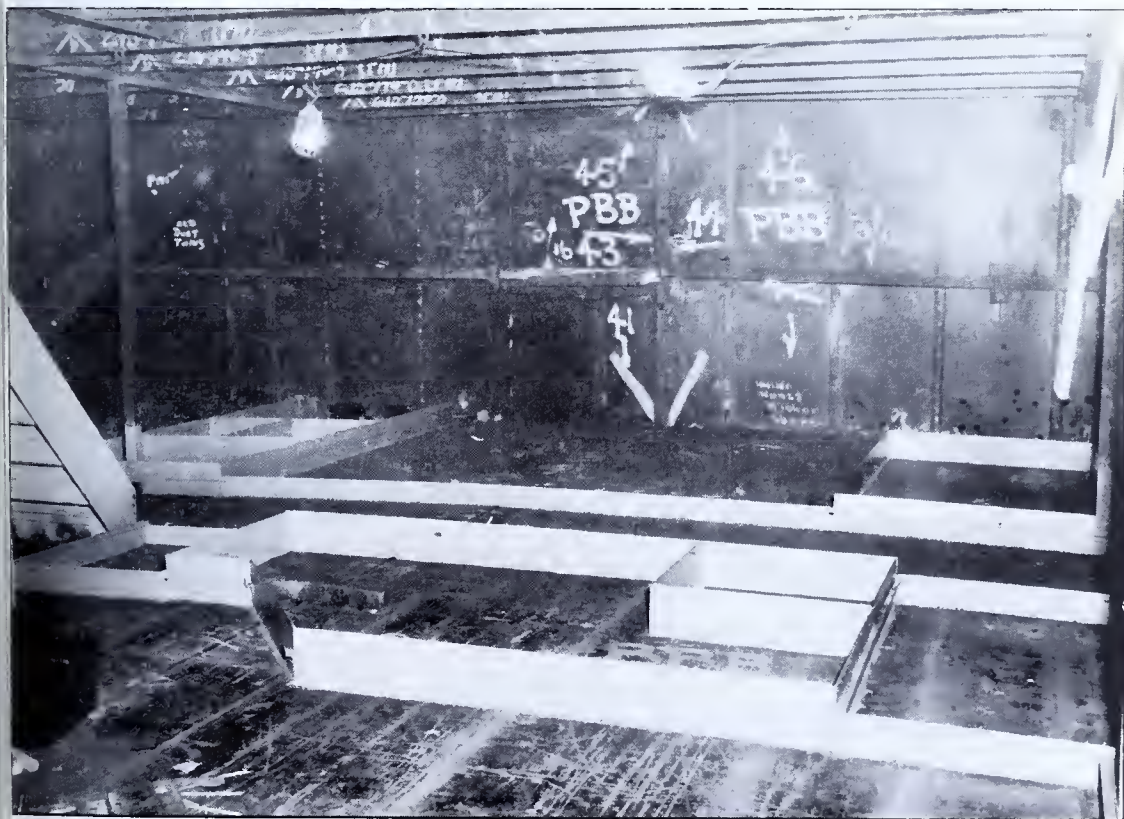
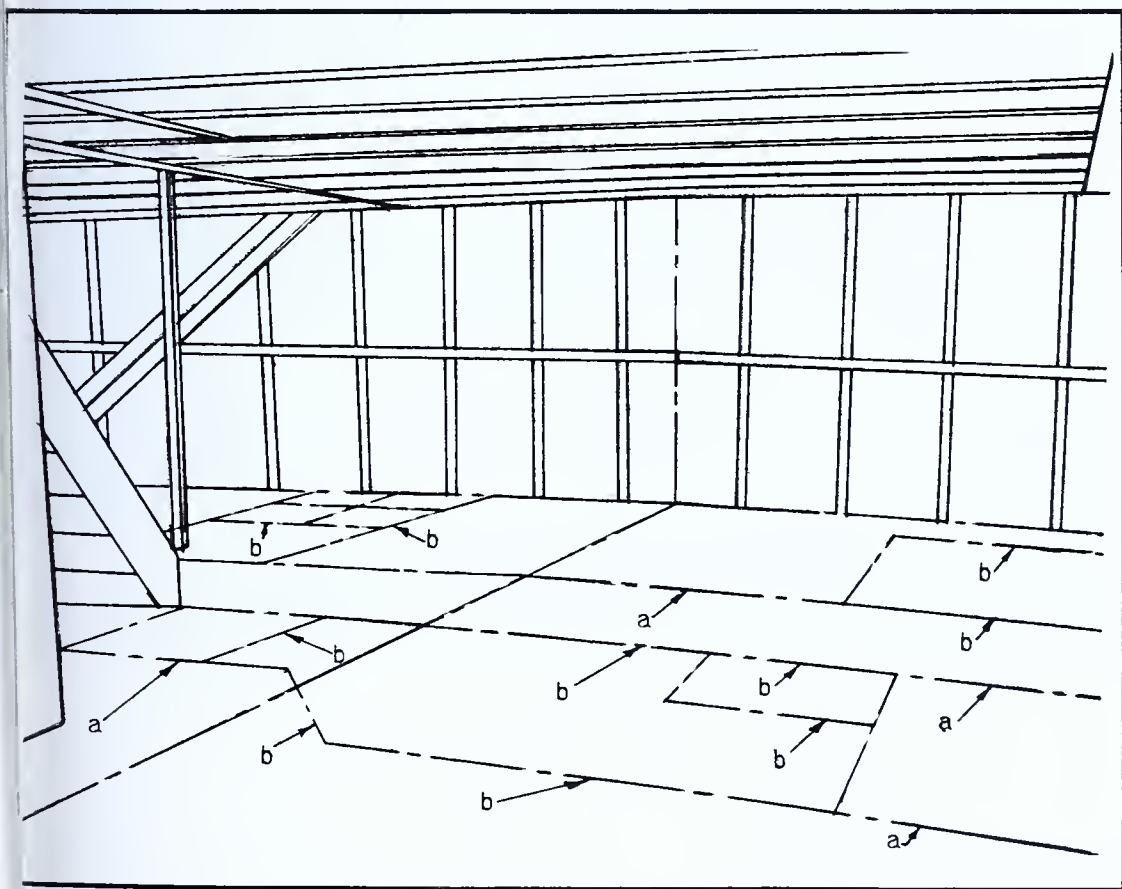
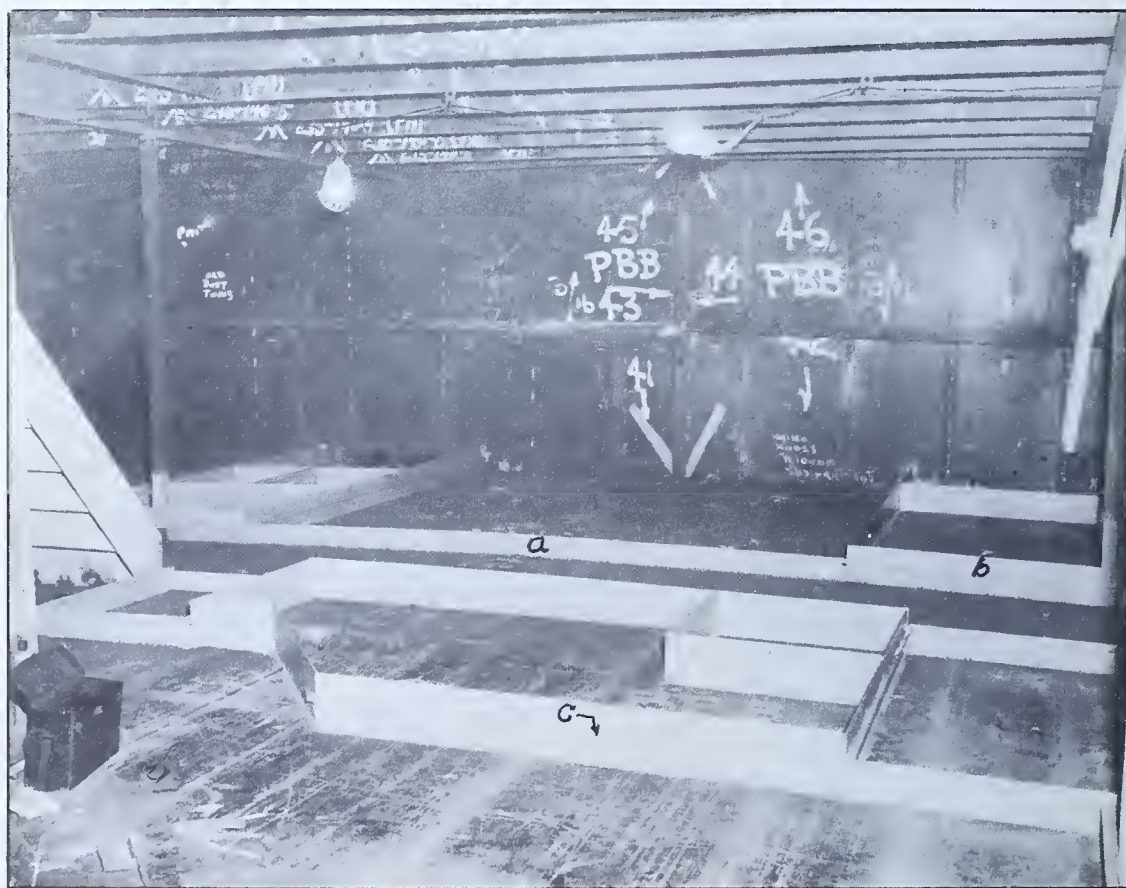

FIG. 64 — *Section of a Deck Showing the V from which the Center Line is located*
FIG. 75 — *Position of Intermediate Shoe at (a)*
FIG. 76 — Intermediate Shoe “a”, Bathroom Coaming “b”, Bathroom Z-Bar “c”
The center line of the ship is determined by referring to the markings on the forward shell of the deck house. The center punch marks representing the center line of the ship are found within the painted "V" on the shell, as shown in Fig. 64.
2. Locate the longitudinal center lines of the intermediate bulkheads for the rooms and passageways. See Fig. 64.
Note that the center lines in Fig. 75 are the center lines for the layout of the rooms shown in Fig. 64.
4. Lay off the width of the bottom iron "intermediate shoe" "a" and bath-room coaming "b" (Fig. 75) on the center lines established for intermediate bulkheads.
The bathroom coaming is installed by the shipfitter under the direction of the joiner. The services of a welder and a burner will be needed to cut the coaming and to weld it in place. See Fig. 75. The intermediate shoe also is installed by the shipfitter under the direction of the joiner. The Z-bar is installed by the joiner, and then is welded to the coaming to receive the bottom of the bathroom panels. See Fig. 76. The locations for the numbers shown in Fig. 76 are laid out on the deck as shown in Fig. 75.
1. Install the coaming first according to the layout shown in Fig. 75. It is tacked to the deck and then welded as shown in Fig. 76.
2. Measure the length of the intermediate shoe which is needed. (Measure the layout on the deck. Fig. 75).